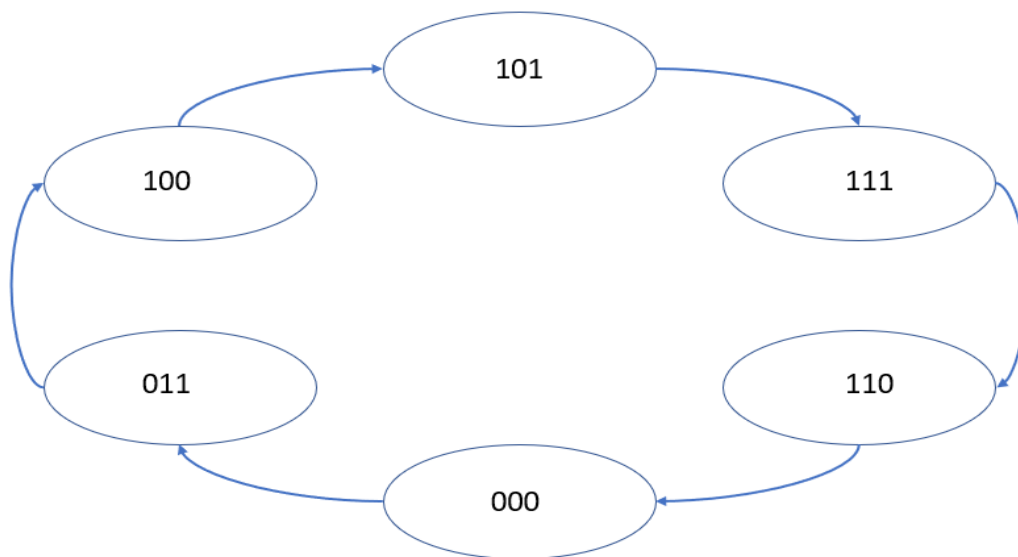

Figure 2: Sequential Counter
Now, we focus on building more complex counters using D flip-flops. You will be designing the counter based on the sequence shown in Figure 2.
You will be using 3 D flip-flops. Use a new simulation file to design the counter. Attached to the lab 7 folder is a solved example and a circuit build in SimUAid. Make sure you study the timing diagram, and make sure that your circuit only uses the values given in your counter. Any output that does not follow the state graph in Figure 2 will indicate that an error has occurred. Testing your circuit design in simulation is recommended.
8. As you can see from Figure 2, each stage is made up of 3-bit values. How many states can the machine start in?